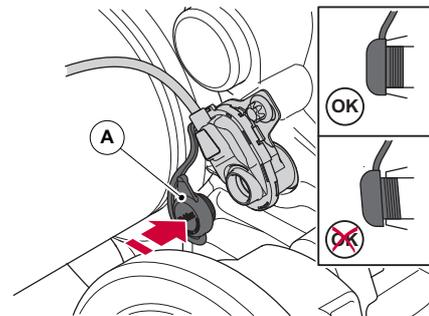

Figure 103. PWIS/PWS protection plug
The reset shaft protection plug identified as (A) and calliper seal (B), see figure 103 and 19.